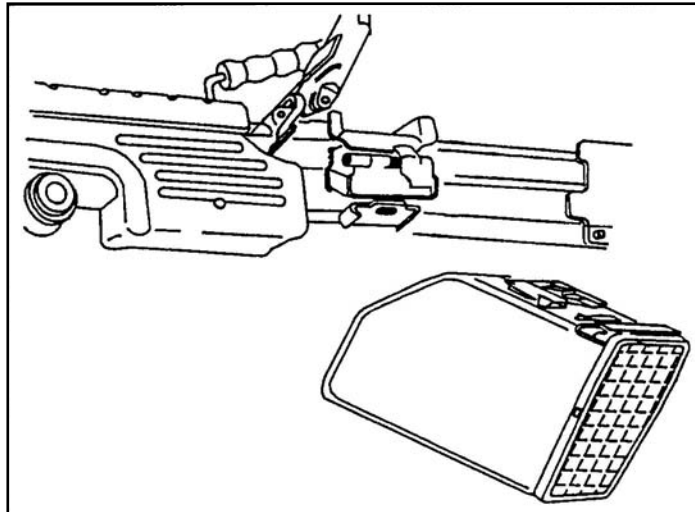

Figure 071-312-4027-3. Attachment of the ammunition box
6. Place the link belt in the feed tray with the first round against the cartridge stop, and hold the belt in place. Close the cover assembly (figure 071-312-4027-4).